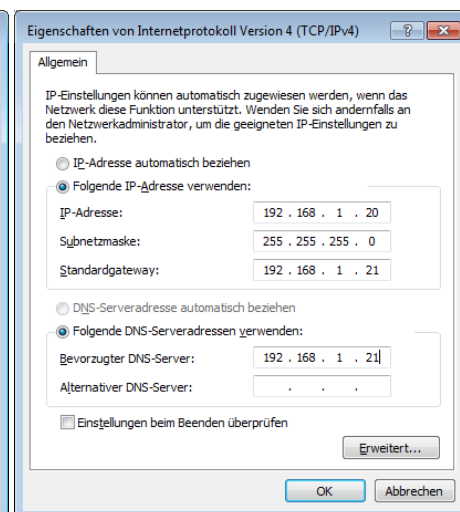

Figure 4
- Configuration example (figure 4) when no DHCP server is available.